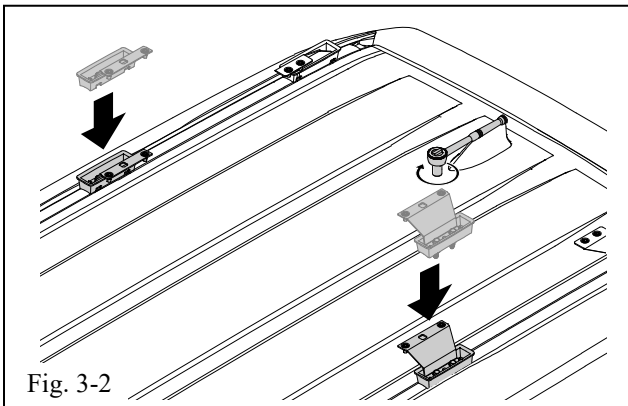

Fig. 3-2
- c) Place the center stanchion assembly on the center mounting point of the roof and tighten the bolts to 17 Nm or (13 ft-lb) (Fig 3-2).
- (d) Place the front stanchion assembly on the front mounting point of the roof and tighten the bolts to 17 Nm or 13 ft-lb (Fig. 3-2).